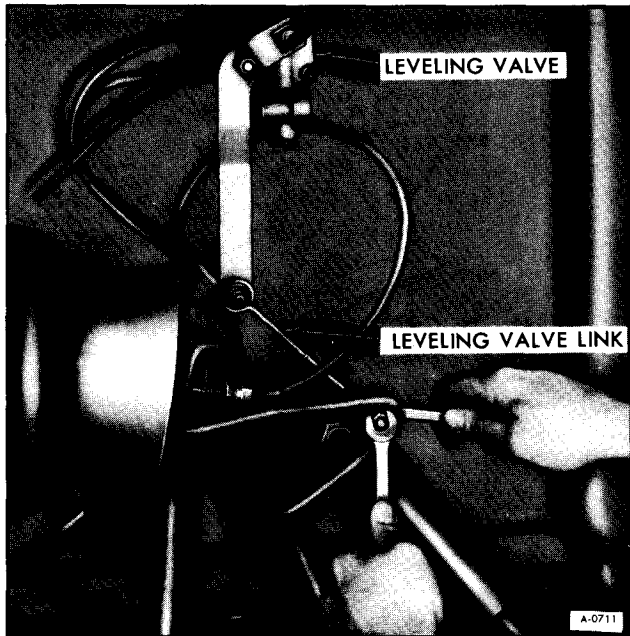

Figure 11—Disconnecting Height Control Valve Link
2. Referring to Figure 11, disconnect leveling valve link and move arm down to open exhaust valve and let air out of bellows.